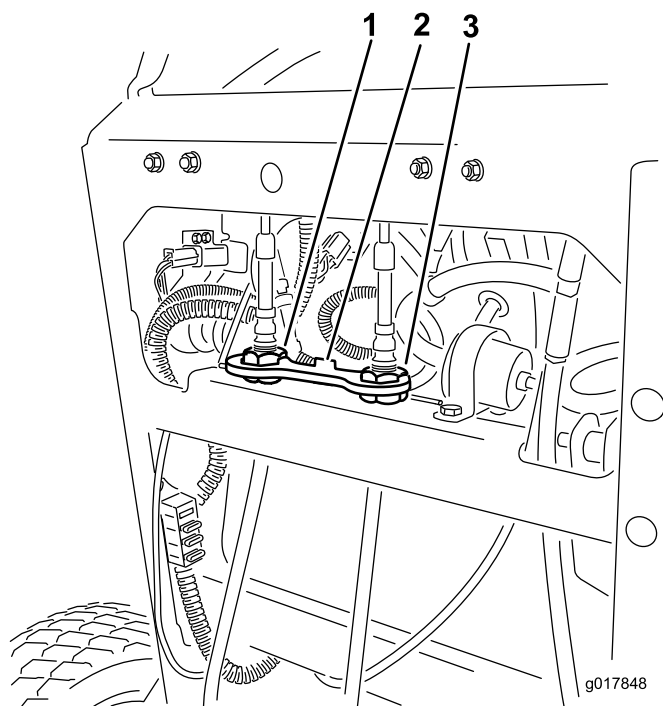

Figure 56
4. Rotate the right cable adjustment to position the right motion-control lever in the center of the control-panel neutral-lock slot (Figure 56).